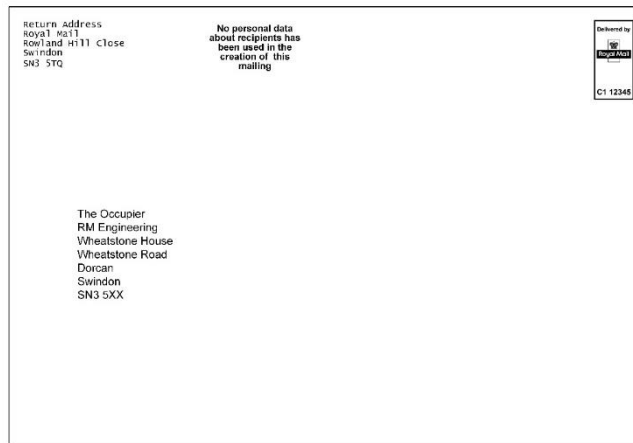
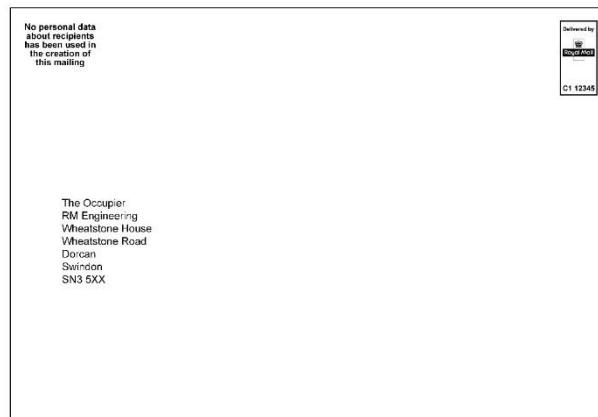
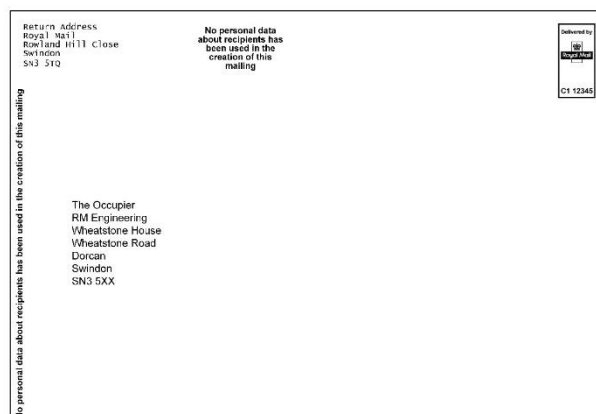

Figure 36: Mailing Item bearing Declaration and return address on the front
Figure 37: Mailing Item bearing Declaration but no return address on the front
Figure 38: For postcards only, the Declaration location can be placed in either of the positions shown
- c. where a Return Address is also included on the front of the Mailing Item, be placed in the location shown in Figure 36 below, or, where a Return Address is not included on the front of the Mailing Item, be placed in the location shown in Figure 37 below:
- d. or, in the case of postcards, the Declaration may, as an alternative to Figure 36 and Figure 37 above, be printed linear format, in any readable font, on the vertical left edge of the Mailing Items. Figure 38 below illustrates the two alternatives for the position of the Declaration for postcards: